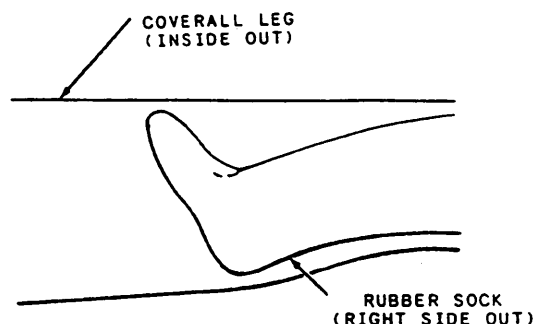

Figure 4-10.—Attaching the rubber sock to the coverall leg.
7. Insert the sock into the leg opening, so that the right sides of the sock and coverall leg are facing each other, and the toe is pointing up (toward the front) (fig. 4-10).